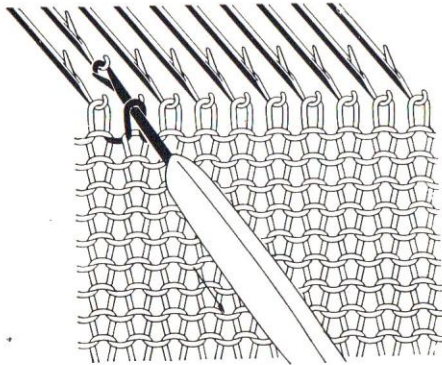

Fig. 33
- (3) Repeat (1) and (2) operation about all stitches on one row. (See Fig. 33.)